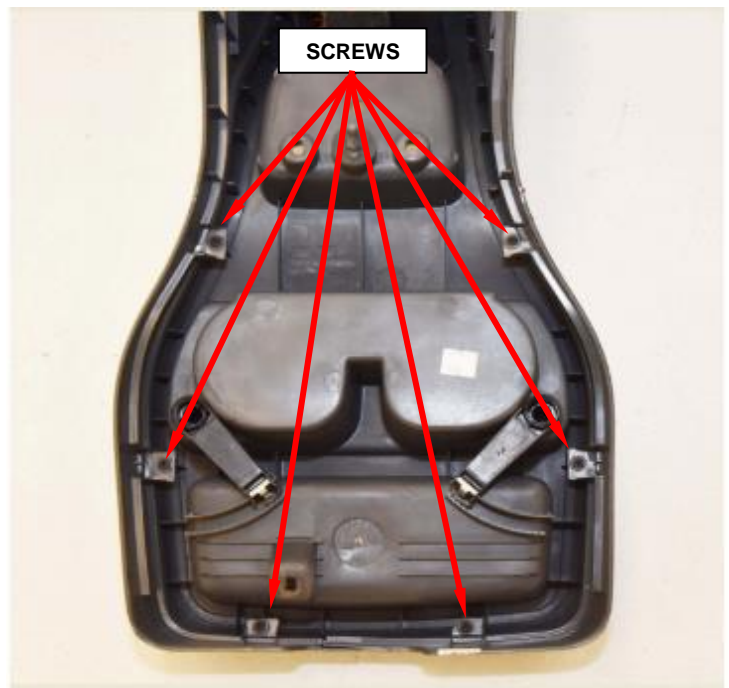

Figure 6 – Lower Console Plate Screws
9. Remove the six lower (underside) console plate attachment screws (Figure 6).